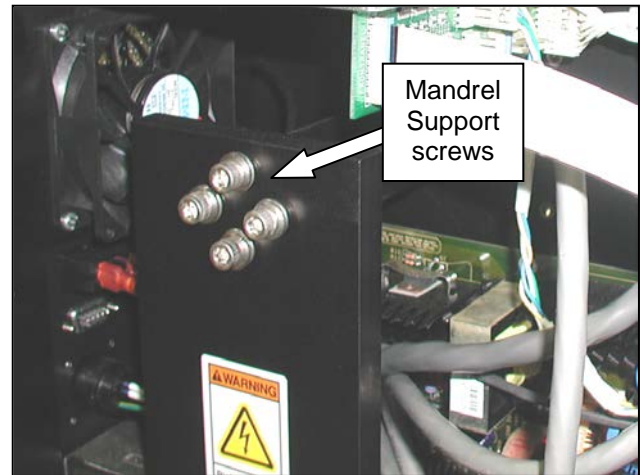
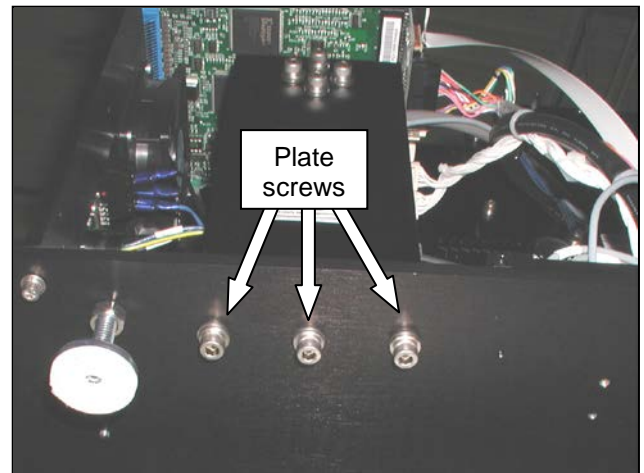

Figure 3-40. Mandrel Support Screws
Figure 3-41. Mandrel Support Plate Bottom Screws
4. Remove the seven screws holding the Mandrel Support Plate, set screws and plate aside (Figure 3-40 & Figure 3-41).